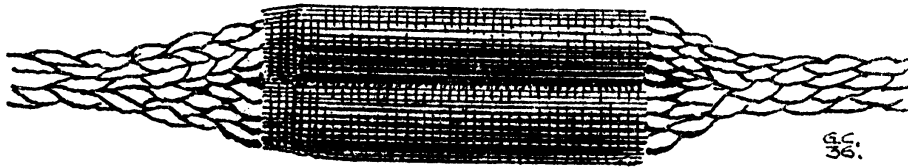
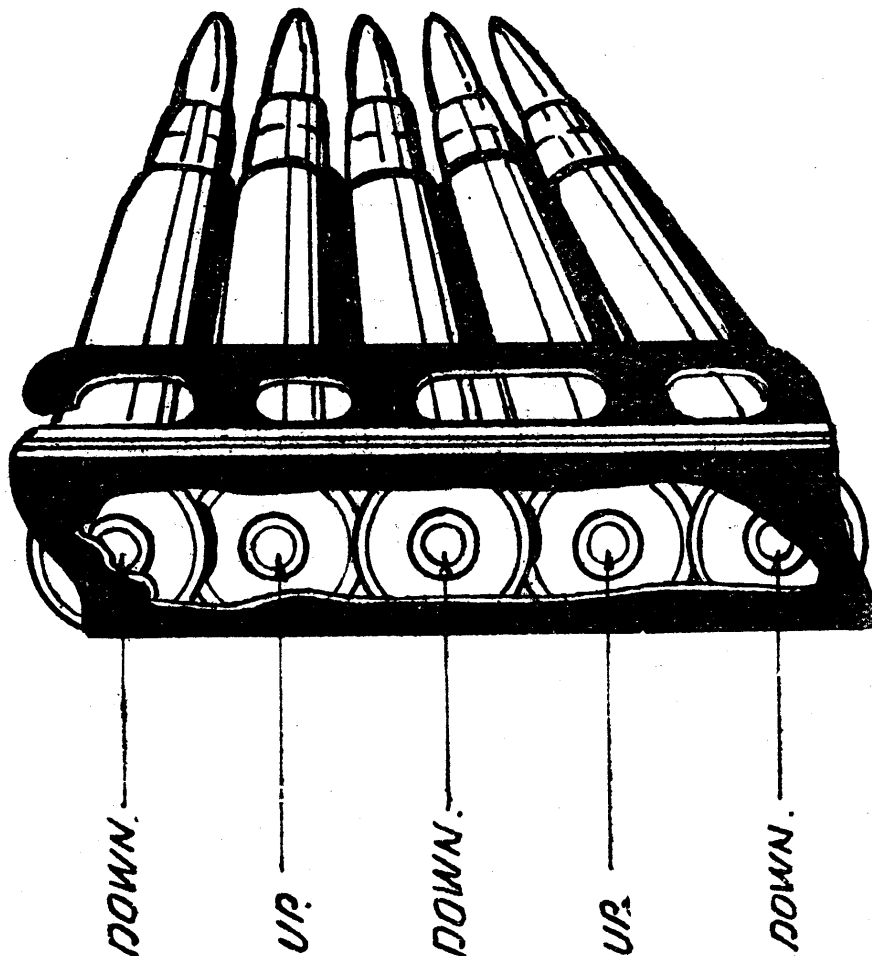

FIG. 2.
Fig. 5
- v. Fitting gauze:- In war-time the gauze will be kept fitted to the pull-through. To fit it, fold it as in Fig. 2, the longer sides taking the shape of an "S." Open the loop of the pull-through nearest the weight and put one side of it in each loop of the "S." Coil each half of the gauze tightly round the cord until the two rolls thus formed meet. Remove loose strands. To make the gauze fit the bore tightly, pack it with a small piece of flannelette if necessary. The gauze will always be oiled before use.
*Stores:- Figs. 5, 4a, 3 at 100, 200, 300 yards respectively, and Figs. 2 at 400 and 500 yards.*
Elbow and head rested, eye over heel of butt. Lay an aim at a Fig. 5 target, distant 100 yards. Squad view. Show how to arrange kit required.
*Explain how to fill chargers (see Fig. 5).*
*Aiming disc:- Any short strip of tin or cardboard, about an inch wide and a few inches long. Paint one side grey with a brown figure 5 on it. Make a small hole in the centre of the figure 5.*